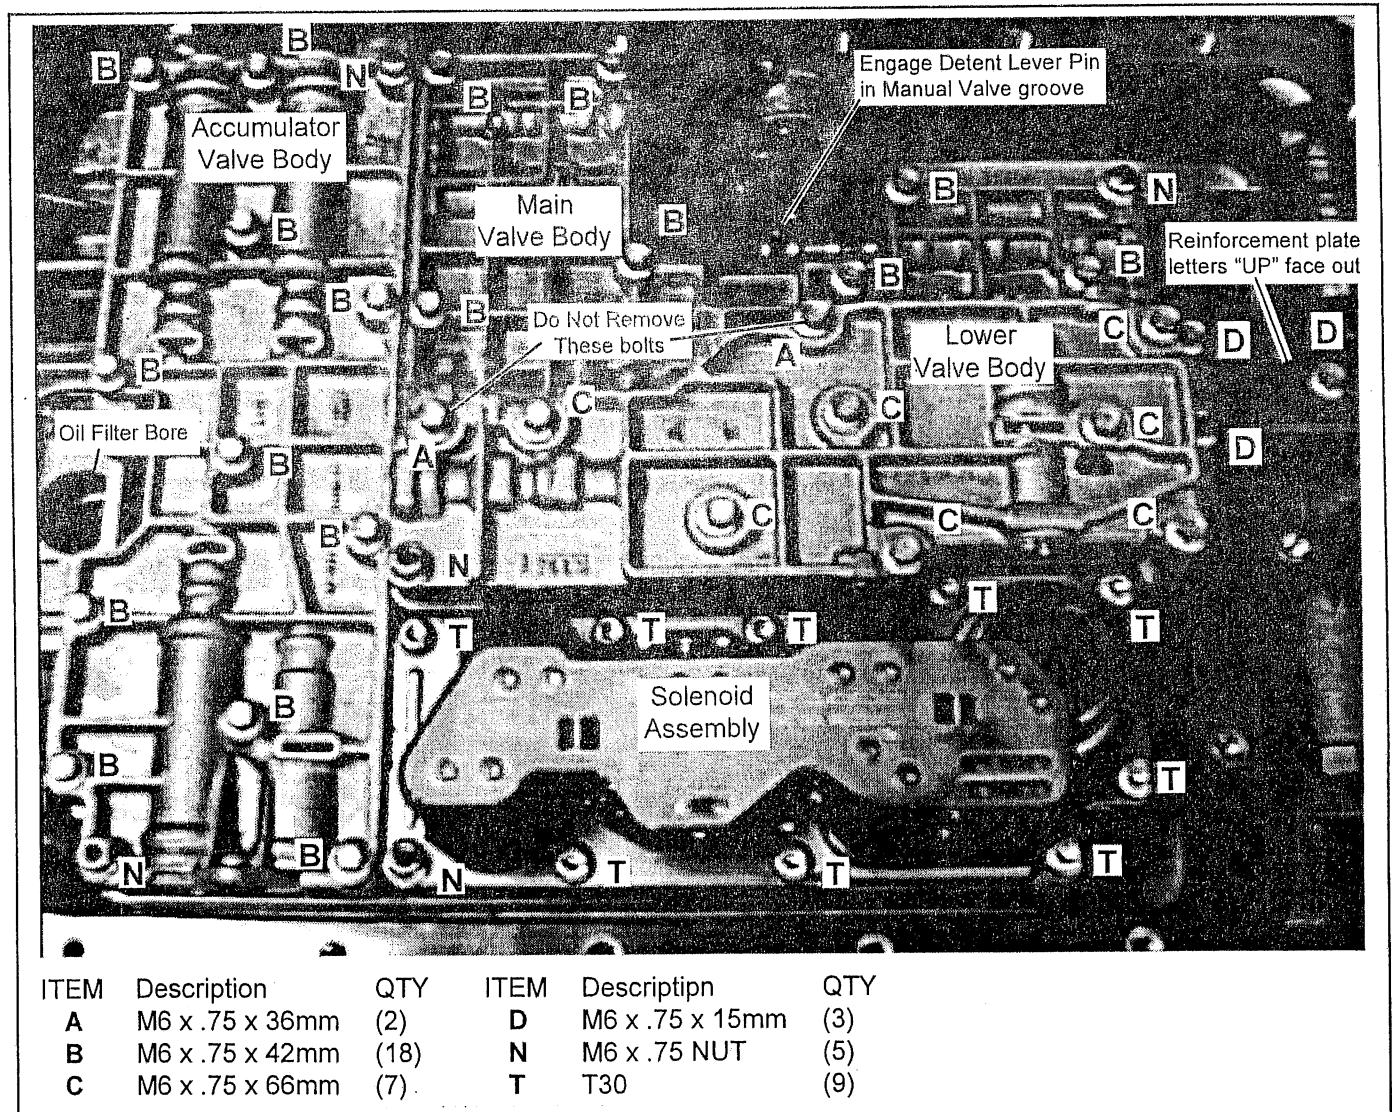

Figure 2. Bottom of Case
remove the filter seal from the pump housing bore (See Fig. 2).
STEP 4. Remove Nine (9) TORX® drive screws (T30 driver) and One (1) nut (10mm socket) from the solenoid valve body (See Fig. 2).
STEP 5. Remove eleven (11) bolts (8mm socket) and two (2) nuts (10mm socket) from the accumulator valve body; (See Fig. 2). Remove the accumulator assembly from case and place on work bench.
STEP 6. Referring to figure 2 DO NOT remove the two (2) Main Valve Body bolts noted on the illustration. Remove fourteen (14) bolts (8mm socket) and two (2) nuts (10mm socket) from the Main Valve Body. Remove the Main Valve Body from the case and place on work bench.
Step 15. Guide the Main Valve Body over the studs. Align the Groove in the Manual Shift Valve with the Pin in the Detent Lever (See **Fig. 2**). Starting in the center and working circularly outward, torque the fourteen (14) bolts (8mm socket) and two (2) nuts (10mm socket) to 9-11 Nm (80-100 lb*in).
Step 16. Guide the Accumulator Valve Body over the case studs. Starting in the center and working circularly outward, torque the fourteen (11) bolts (8mm socket) and two (2) nuts (11mm socket) to 9-11 Nm (80-100 lb*in).